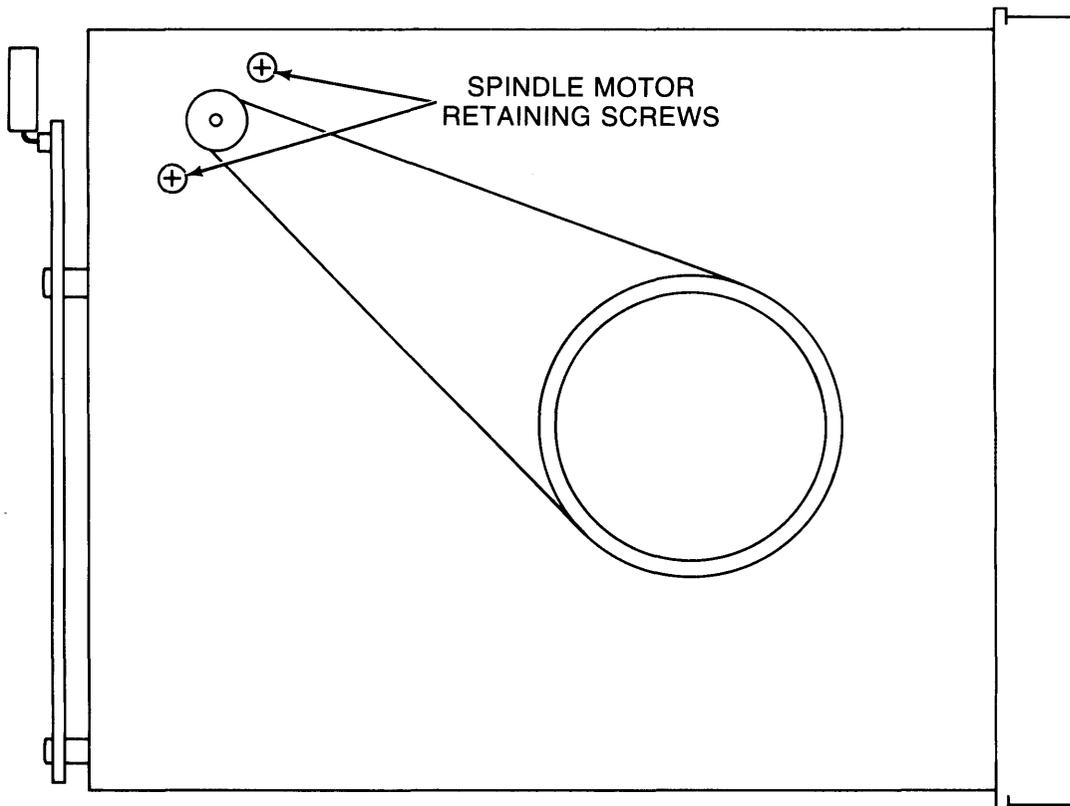

Figure 5-2: Spindle Drive Belt Adjustment
Refer to Figure 5-2 while performing these steps:
3. Place the spindle motor adjustment tool on the bottom of the drive as shown in Figure 5-2 so that the small end of the adjustment tool rests against the motor pulley and the large end rests against the spindle pulley.